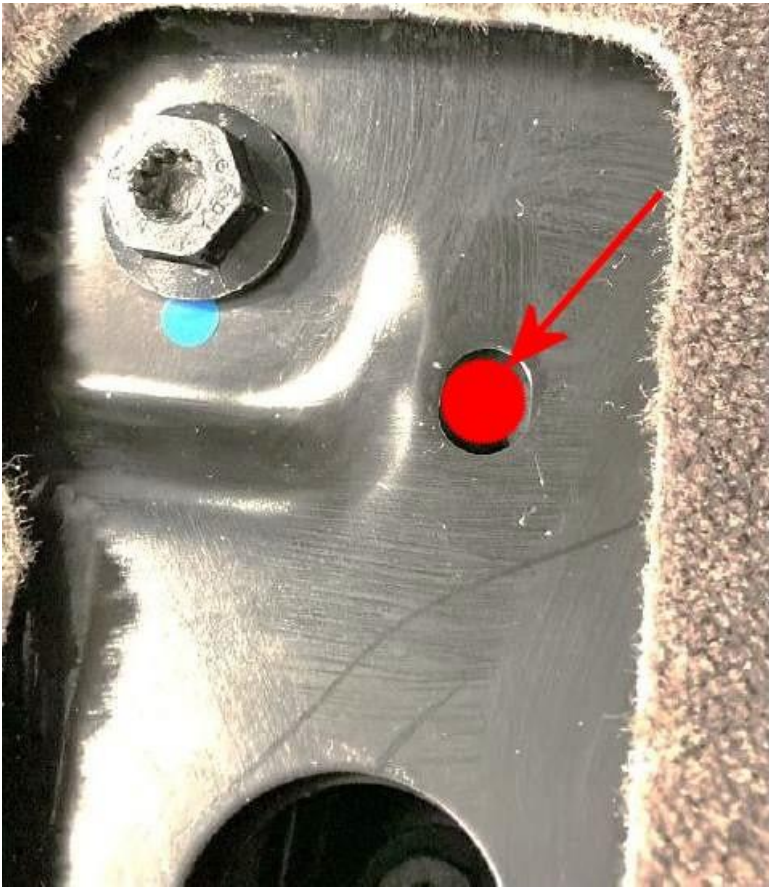

Figure 6
- Referring to Figure 6 - Apply/stick Paraskin tape